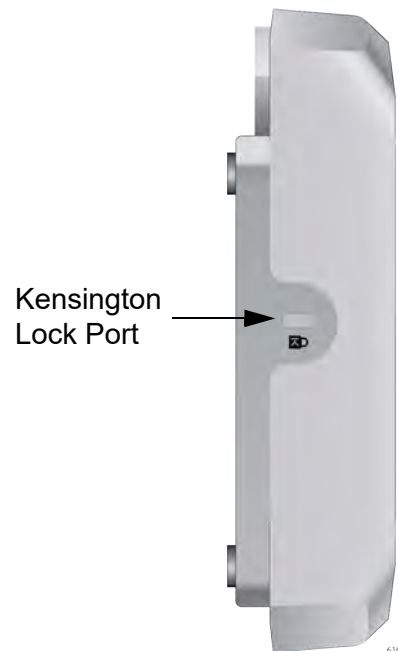

Figure 24. Kensington Lock Port Location
1. Follow the instructions provided with the vendor's anti-theft device for the installation. See Figure 24 for the Kensington lock port location.